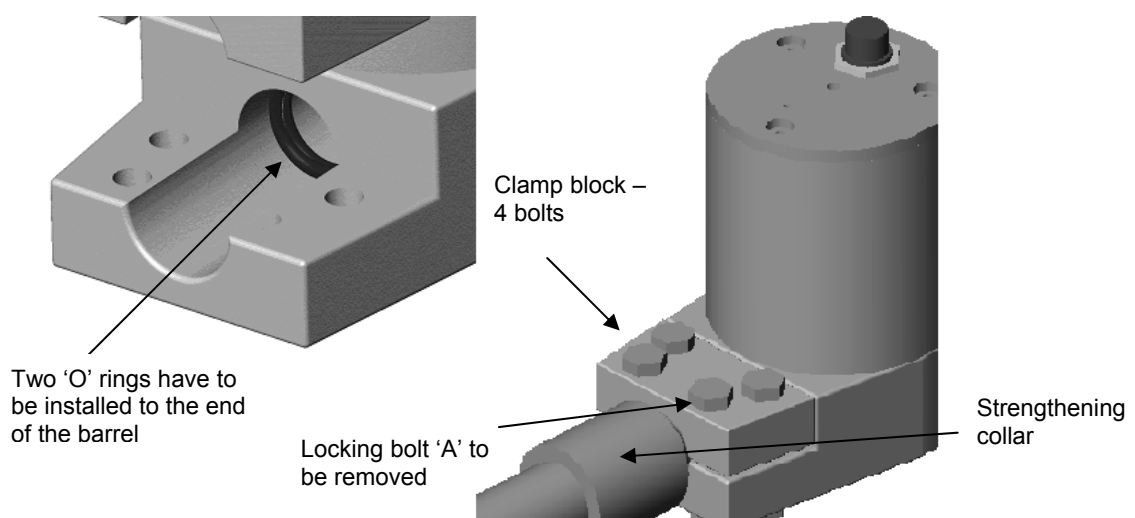

Figure 2 - Installation of sensing arm into sensor body
An additional feature with the longer (700mm) sensing arm is a reinforcement collar that fits over the top of the arm, see Figure 2. This is included to increase the strength of the arm.
- Loosen the 4 arm clamp bolts on the electronics body and remove the locking bolt (A).
- Fit the two 'O' rings. These need to be located inside the clamp blocks up against the step as shown in Figure 2